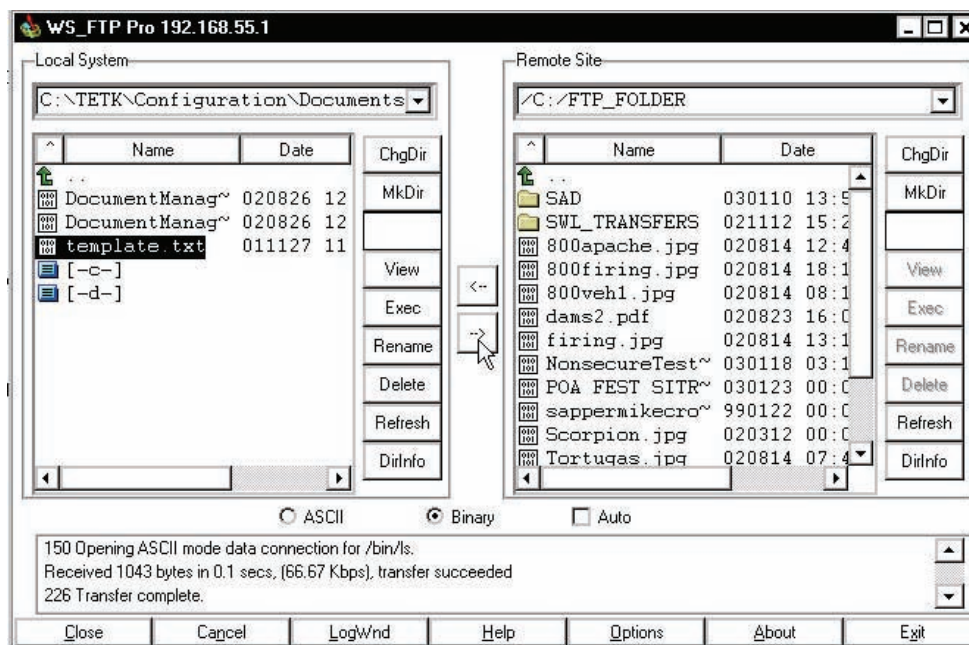

Figure 35. WS_FTP window for moving files.
- A WS_FTP window will appear, showing a folder and its contents for your PC (Local System) and for the TEOC TCE-F (Remote Site). Freely change folders as desired and move files between the two machines by highlighting the file(s) of choice and using arrow buttons in the center of the screen to define the “direction” of the transfer and to initiate the transfer as shown in Figure 35.